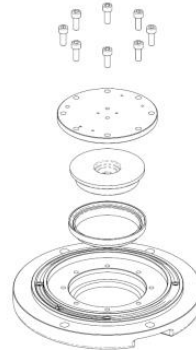

Figure 5-15
- Take out the prism and prism gasket from the upper cover and load the new prism gasket and prism into the upper cover in succession. (see Figures 5-15)